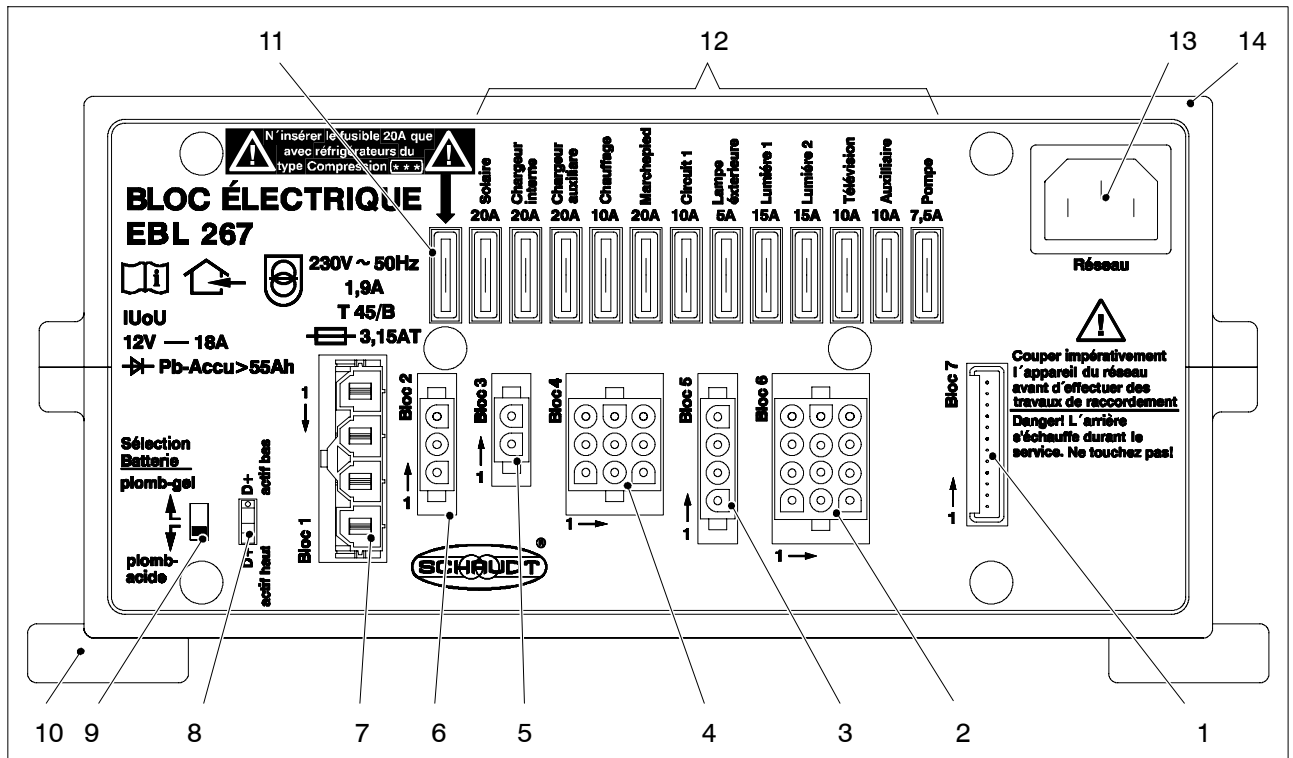

Fig. 3 Layout of the EBL 267 A electrobloc (front)
Battery isolation	<p>A battery is isolated as follows:</p> <ul style="list-style-type: none"> ▶ Switch off the 12 V main switch on the control and switch panel. ▶ Pull out flat vehicle fuse, refrigerator (fig. 3, pos. 11) if available ▶ Pull out connector on block 4 of the EBL 267 A. <p>This prevents the living area battery from slowly discharging due to closed circuit current while the vehicle is not in use.</p>